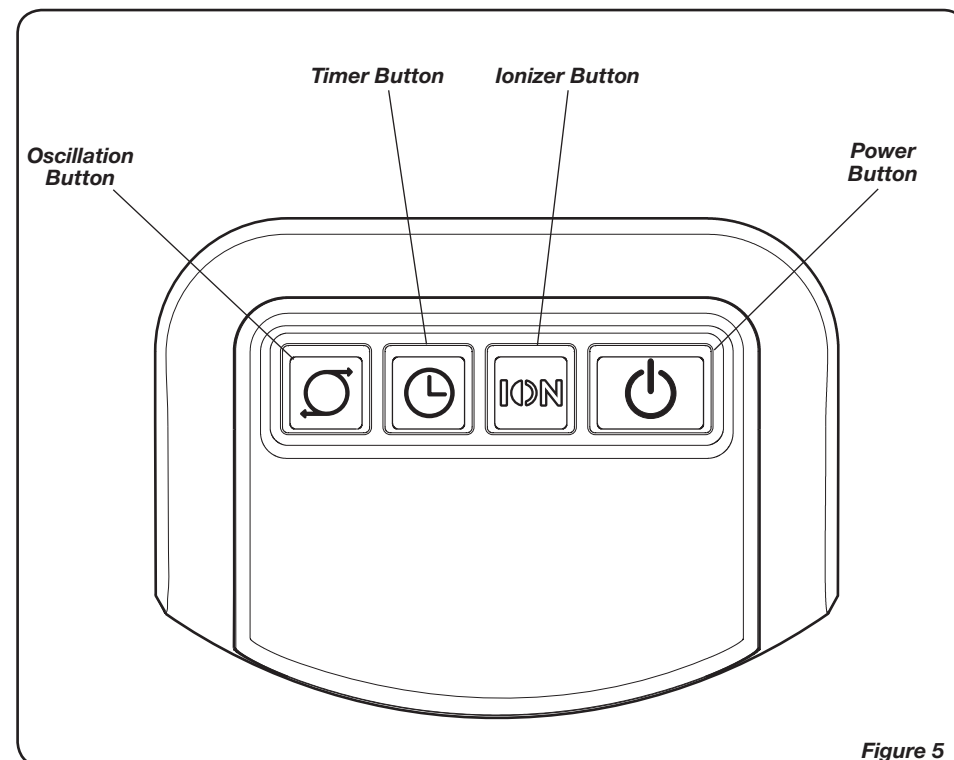
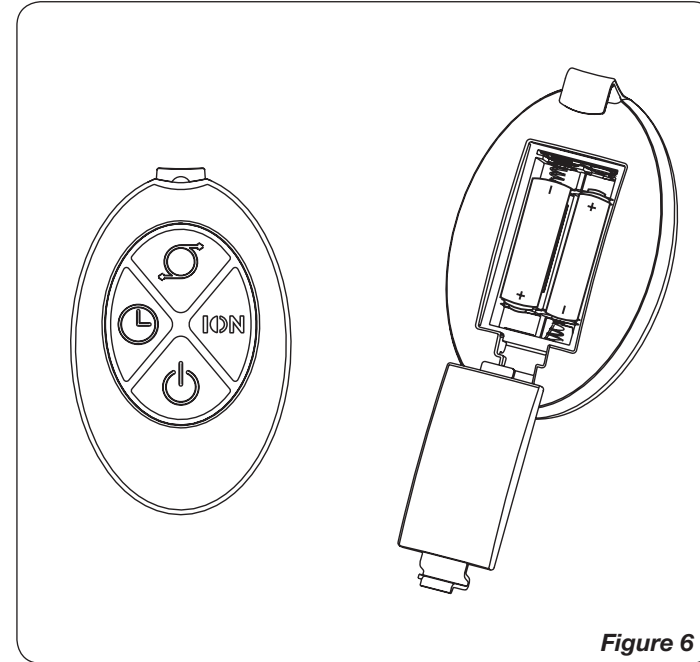

Figure 5
Figure 6
**OPERATION** This Fan may be operated by the Manual Controls located on top of the unit (as shown in *Figure 5*) or by the Remote Control (shown in *Figure 6*).
### REMOTE CONTROL (Figures 6 and 7)
1. Install batteries (not supplied) as shown in *Figure 6*. The battery is size “AAA”.